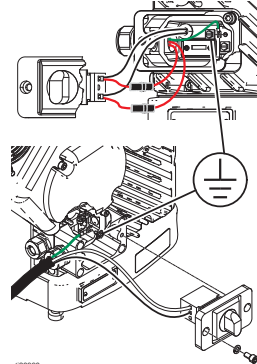
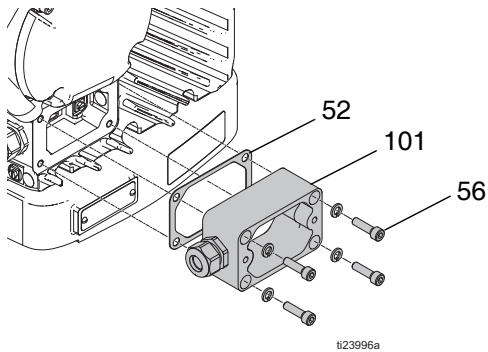

FIG. 26: Ground Screw Location
FIG. 29: Junction Box Sleeve
7. Connect the fan ground wire. See FIG. 29, page 28. See FIG. 26, page 27.
9. Install the gasket (52), the junction box sleeve (101), and tighten all four bolts (56). See FIG. 29, page 28.